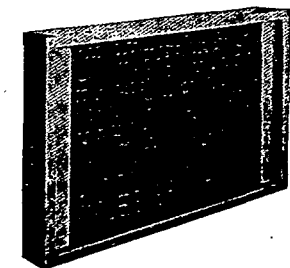

Fig. 6
**Narrow Width Aerofin:** (Fig. 6) recommended for water cooling or for flooded Freon systems. Made in straight tubes only with headers on opposite ends, joints between headers and tubing being brazed. Construction similar to Flexitube AEROFIN.